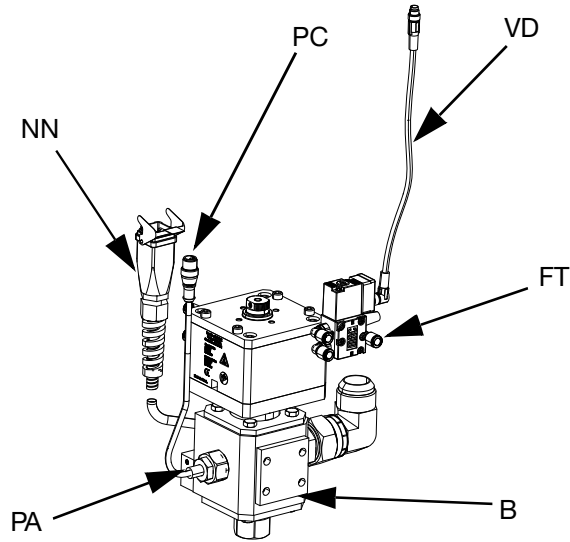

FIG. 25
- 9. Connect the Air Line (AR) (not supplied) to the air fitting (FT) on the dispense valve solenoid. See the Axial Dispense Valve Instructions-Parts manual. See FIG. 25.
- a. Connect the solenoid valve cable (VC) to the M8 4 pin end of the splitter cable attached to Port 4 on the Electric Driver (AB). See **Electric Driver Communication Connections** for Single Rams on page 16. See FIG. 25.
- b. Connect the 90 degree end of the included M8 4 pin cable (VD) to the dispense valve, and the straight end of the solenoid valve cable to (VC). See FIG. 25.
- a. Connect the dispense valve solenoid cable to the tandem dispense valve solenoid connector (YY) on tandem block (R).
- b. Connect the 90 degree end of the included M8 4 pin cable (15N040) to the dispense valve, and the straight end of the solenoid valve cable to (VC). See FIG. 25.
- c. Connect one male end of the M8 4 pin splitter (TT) on the tandem block (R) to the M8 4 pin end of the splitter cable attached to Port 4 on the Electric Driver (AB) for ram 1 and ram 2. See **Electric Driver Communication Connections** for **Tandem Rams** on page 17.